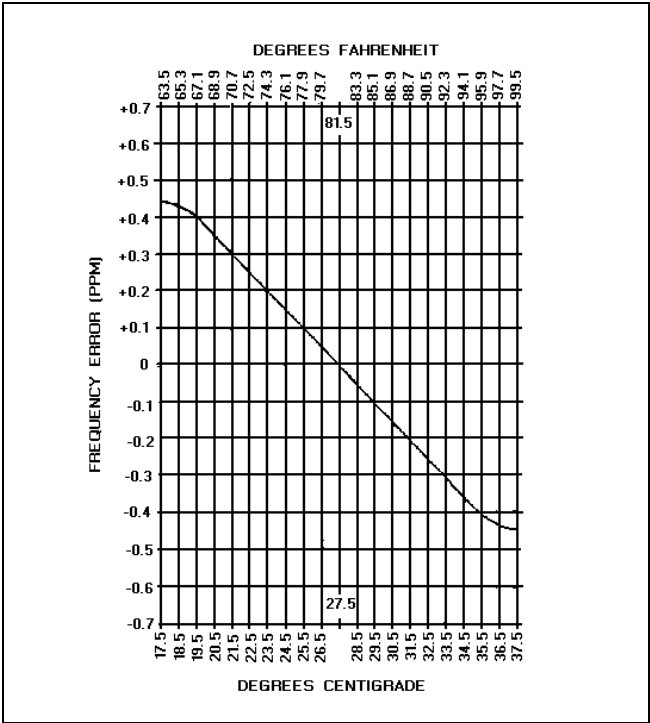

Figure 2 - Correction Factor Chart
- 2. Maintain the radio at 27.5°C (10°C) and offset the oscillator, as a function of actual temperature, by the amount shown in the correction factor chart (Figure 2).